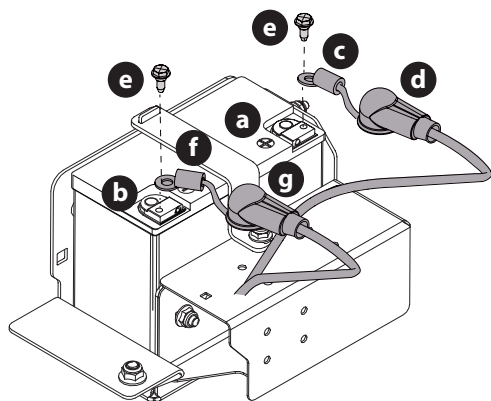

Figure 20
NOTE: The positive battery terminal is marked POS. (+) (a). The negative battery terminal is marked NEG. (-) (b) (Figure 20).
NOTE: If the positive battery cable (c) is already attached, skip ahead to Step 4 (Figure 20).
2. Slide the red boot (d) from the positive battery terminal (a) and attach the red cable (c), with the vertical mount bolt (e) (Figure 20).
3. Position the red boot (d) over the positive battery terminal (a) to insulate it and help protect it from corrosion (Figure 20).
4. Slide the black boot (g) from the negative battery terminal (b) and attach the black cable (f) to the negative battery terminal (b) with the vertical mount bolt (e) (Figure 20).
5. Position the black boot (g) over the negative battery terminal (b) to insulate it and help protect it from corrosion (Figure 20).